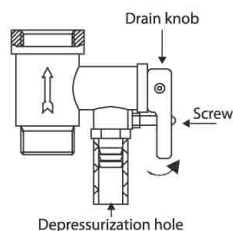

Fig. 16
- for RS1/RS2/RS7 series water heaters: unscrew retaining nut of the thermal switch, fastened on the flange of the heating element, turn over the thermal switch and press the button, located in the center of the thermal switch, until it clicks, Fig.16;